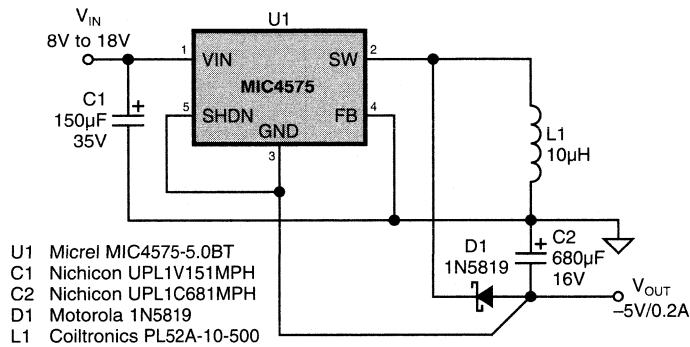

Figure 2. MIC4575 Discontinuous Design (8V–18V to $-5\text{V}/0.2\text{A}$)
Figure 2 shows a design that eliminates a level-shifting op amp by connecting the MIC4575 ground pin (GND) to the negative output voltage and the feedback pin (FB) to ground. The only drawback to this scheme is that the shutdown signal is now referred to the -5V output instead of to ground, requiring a level-shifting transistor to implement this function.
A discontinuous design, as in Figure 2, eliminates the RHP zero because an RHP zero occurs only in continuous mode. This produces the simplest circuit, although output current is one-half and peak current is about double when compared to an equivalent continuous design.